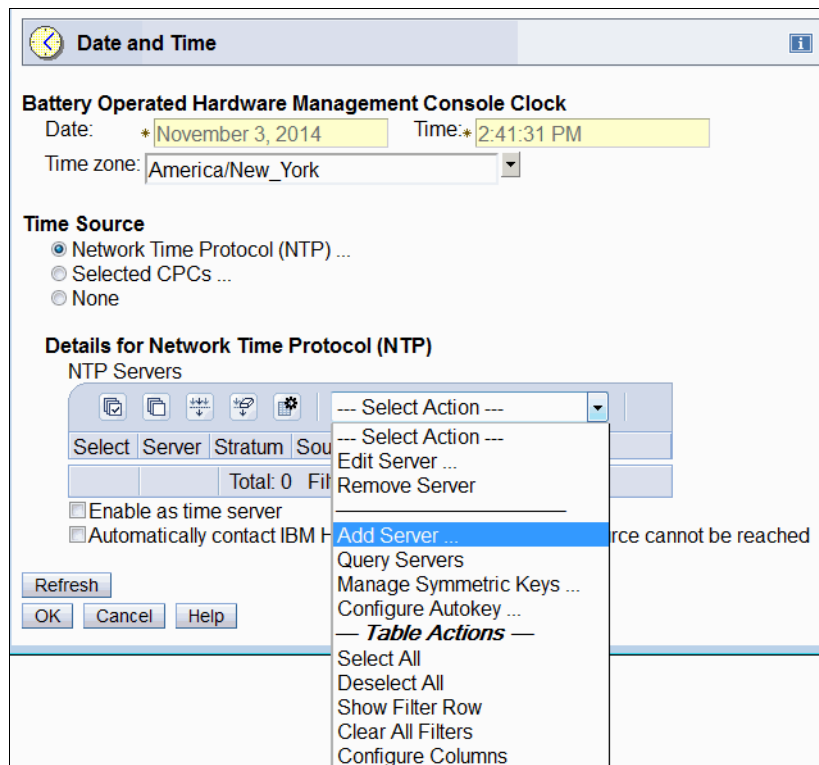

Figure 9-5 HMC: Customize Console Date and Time Add Server
3. Select **Add Server** from the Select Action list (Figure 9-5).